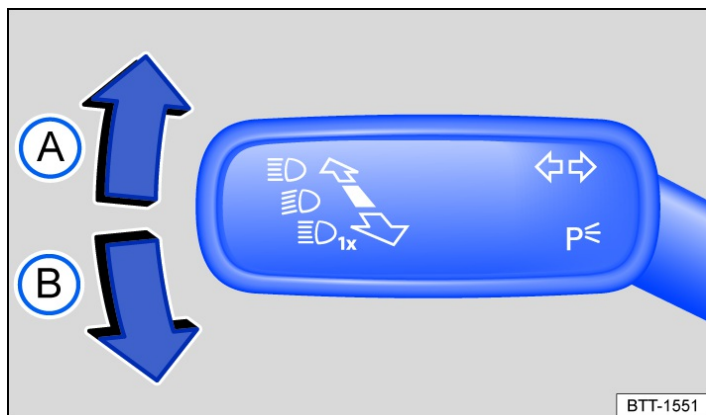

Fig. 1 On the left-hand side of the steering column: turn signal and main beam lever.
- Move the turn signal and main beam lever from the centre position to the following position → *Fig. 1*: